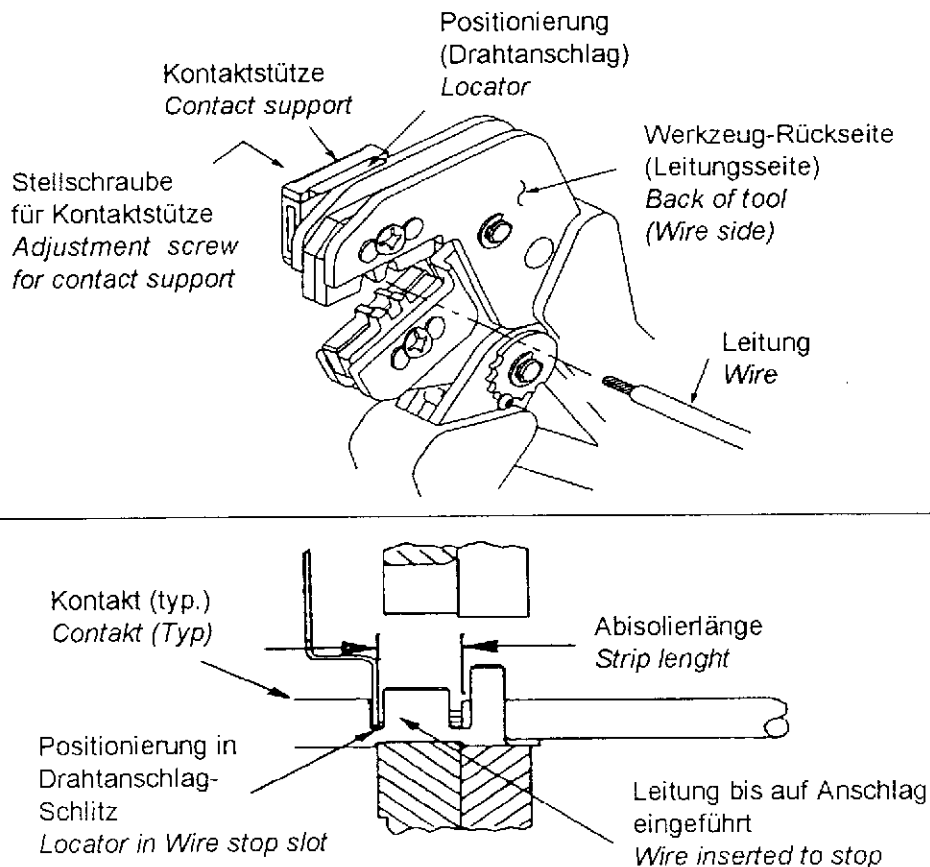

Figure 3
Refer to the table in Figure 1a and select wire of the specified size and insulation diameter. Strip the wire to the length indicated in Figure 1a, taking care not to and identify the appropriate crimp section according to the wire size marking on the tool. Refer to Figure 3 and proceed as follows:
3. *Position the contact so that the mating end of the contact is on the locator side of the tool, and so that the open "U" of the wire and insulation barrels face the top of the tool. Place the contact up into the nest so that the movable locator drops into the slot in the contact. Refer to Figure 3. Butt the front end of the wire barrel against the movable locator.*
5. *Insert stripped wire into contact insulation wire barrel until it is butted against the wire stop, as shown in Figure 3.*
The crimped contact may stick in the crimping area, but the contact can be easily removed by pushing downward on the top of the locator (see Figure 3).